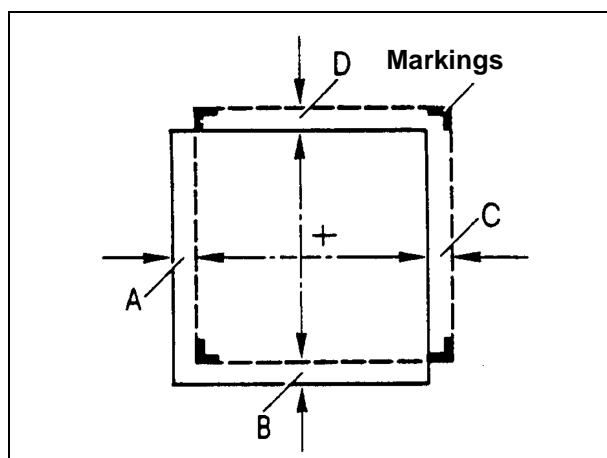

Fig. 6
- Develop the film and measure the deviation between the light and the radiation fields. Acceptable deviation  $\pm 1.7\%$  of SID, (Fig. 6).